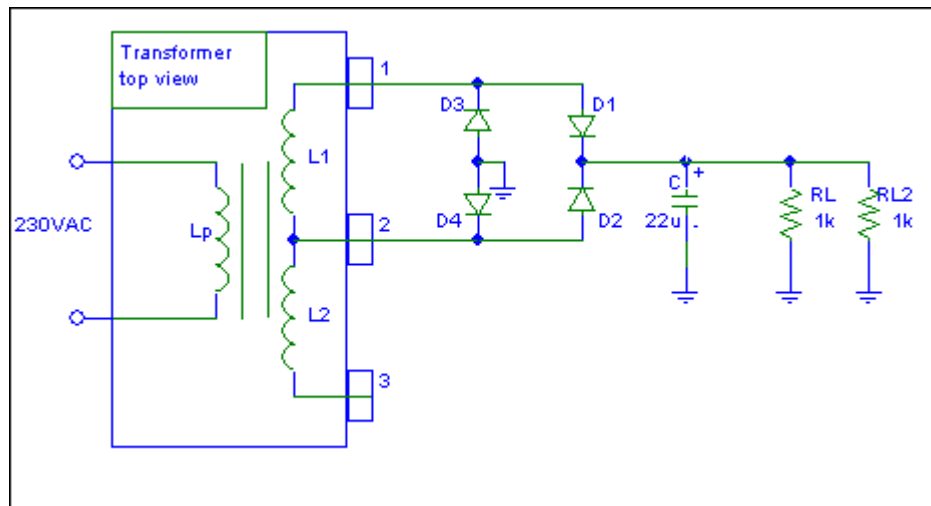

Fig. 5 Diode-bridge full-wave rectifier with smoothing capacitor with increased load.
4. Increase load by adding second 1k $\Omega$  load resistor RL2 as in fig. 5 and repeat points 2-4.